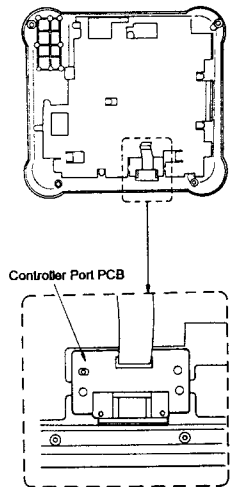

Figure 11
(1) After removing the top case, the CD-ROM drive, the power transformer, and the main PCB, gradually raise the Controller Port PCB as shown in Figure 11.